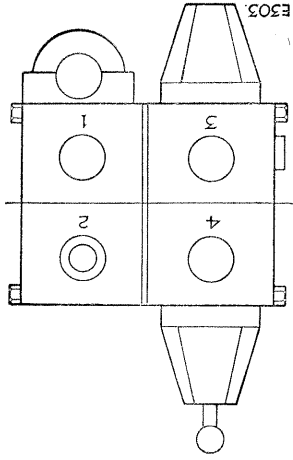

Fig. T-28—Rear view of control valve, showing sequence of pipe fitting
83. Connect the four hydraulic pipes to the control valve on the heel board in the sequence illustrated at Fig. T-28.
63. Connect the four hydraulic pipes to the control valve on the heel board as shown at Fig. T-28.